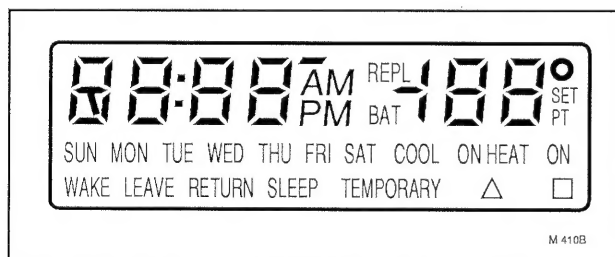

Fig. 8—All segments on display.
1. Press AHEAD and BACK keys at the same time. While holding keys down, all segments of the display should be on (see Fig. 8).